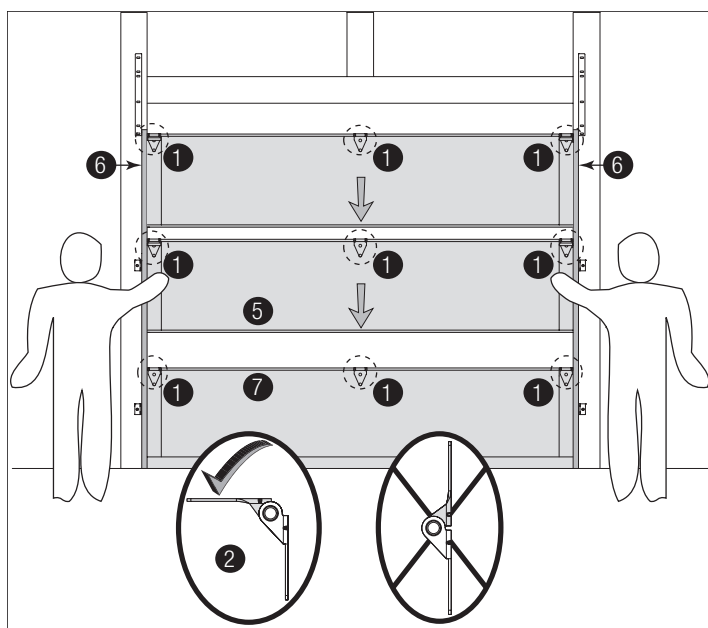
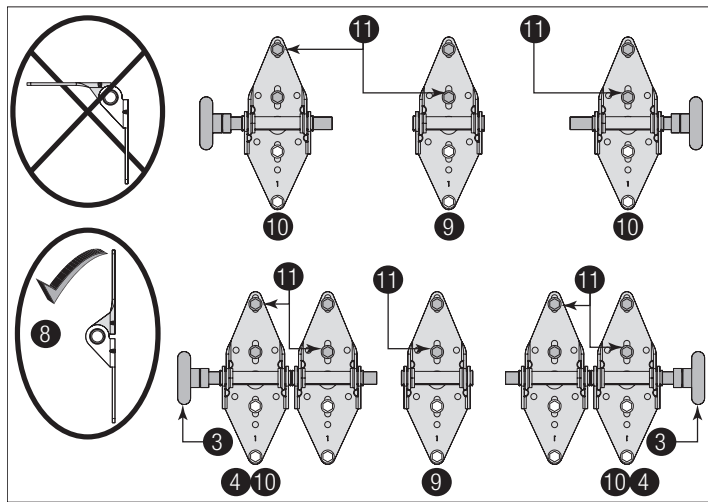

Figure 32
Figure 33
**See Figure 32 and Figure 33 for the following steps.**